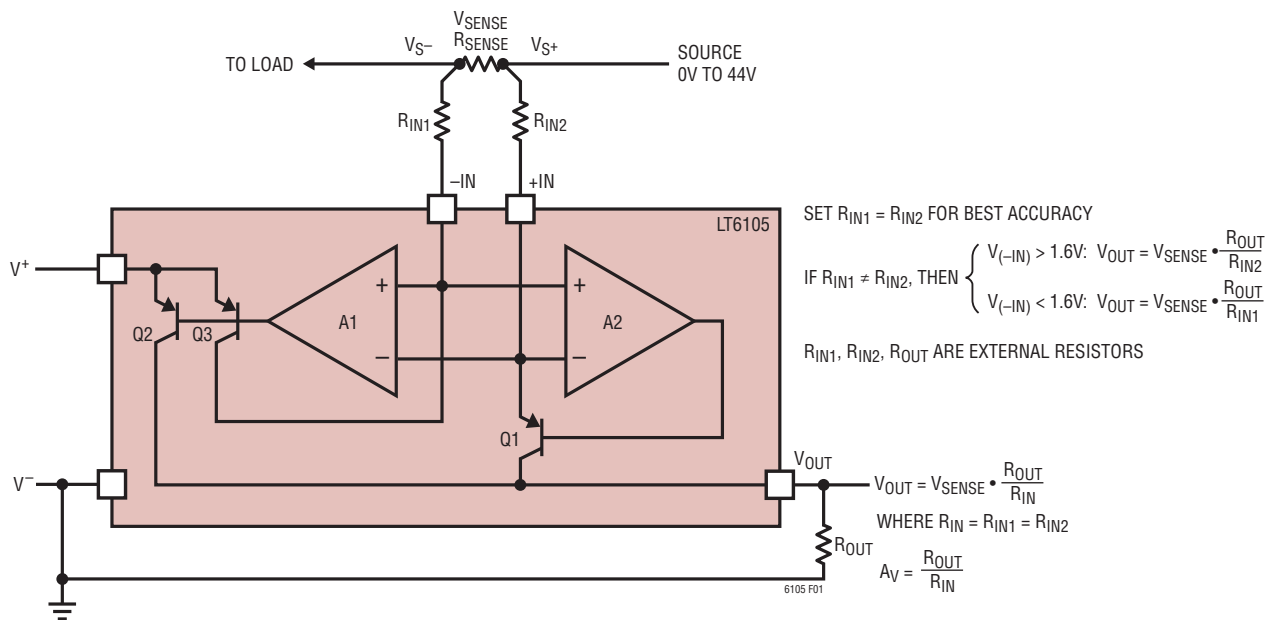

Figure 1. Simplified Block Diagram
**+IN (Pin 6/Pin 8):** Positive Sense Input Terminal. Connecting a source to  $V_{S^+}$  and a load to  $V_{S^-}$  will allow the LT6105 to monitor the current through  $R_{SENSE}$ , refer to Figure 1. Connect  $+IN$  to an external gain-setting resistor  $R_{IN2}$  to set the gain.  $+IN$  remains functional for voltages up to 44V, referred to  $V^-$ .
The LT6105 extended input range current sense amplifier (see Figure 1) provides accurate unidirectional monitoring of current through a user-selected sense resistor. The LT6105 is fully specified over a  $-0.3\text{V}$  to  $44\text{V}$  input common mode range. A high PSRR  $V^+$  supply ( $2.85\text{V}$  to  $36\text{V}$ ) powers the current sense amplifier. The input sense voltage is level shifted from the sensed power supply to the ground reference and amplified by a user-selected gain to the output. The output voltage is directly proportional to the current flowing through the sense resistor.
### THEORY OF OPERATION (Refer to Figure 1)
The crossover voltage, the voltage where the  $g_m$  of one input stage is transferred to the other, occurs at 1.6V above  $V^-$ . Near this region, one input stage is shutting off while the other is turning on. Increases in temperature will cause the crossover voltage to decrease. For input operation between 1.6V and 44V, the common base PNPs are active (Q2, Q3 of Figure 1). The typical current through each input at  $V_{SENSE} = 0V$  is 15 $\mu A$ . The input offset voltage is 300 $\mu V$  maximum at room temperature. For input operation between 1.6V to 0V, the other PNP is active. The current out of the inputs at  $V_{SENSE} = 0V$  is 100nA. The input offset voltage is untrimmed and is typically 300 $\mu V$ .
The LT6105 is designed to exhibit fast response to inputs for the purpose of circuit protection or signal transmission. This response time will be affected by the external circuit in two ways—delay and speed. If the output current is very low and an input transient occurs, there may be an increased delay before the output voltage begins changing. This can be improved by increasing the minimum output current, either by increasing  $R_{SENSE}$  or decreasing  $R_{IN}$ . The effect of increased output current is illustrated in the step response curves in the Typical Performance Characteristics section of this data sheet. Note that the curves are labeled with respect to the initial output currents. The speed is also affected by the external circuit. In this case, if the input changes very quickly, the internal amplifier will slew the base of the internal output PNP (Figure 1) in order to maintain the internal loop. This results in current flowing through  $R_{IN}$  and the internal PNP. This current slew rate will be determined by the amplifier and PNP characteristics as well as the input resistor,  $R_{IN}$ . See the Slew Rate vs  $R_{IN}$  curve in the Typical Performance Characteristics section. Using a smaller  $R_{IN}$  will allow the output current to increase more quickly, decreasing the response time at the output. This will also have the effect of increasing the maximum output current.